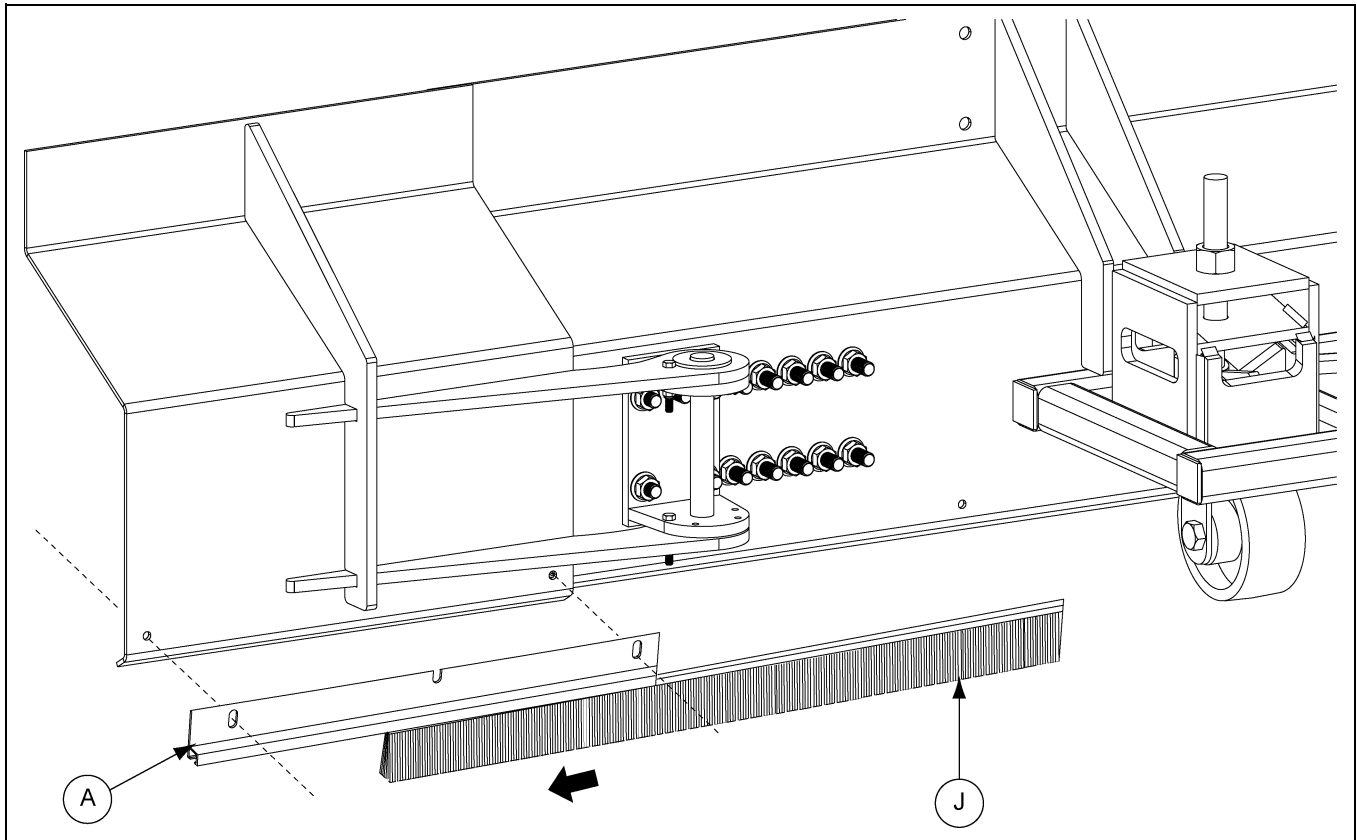

Figure 4V
7. Install brush (J) to brush holder (A). (See Figure 4V.)